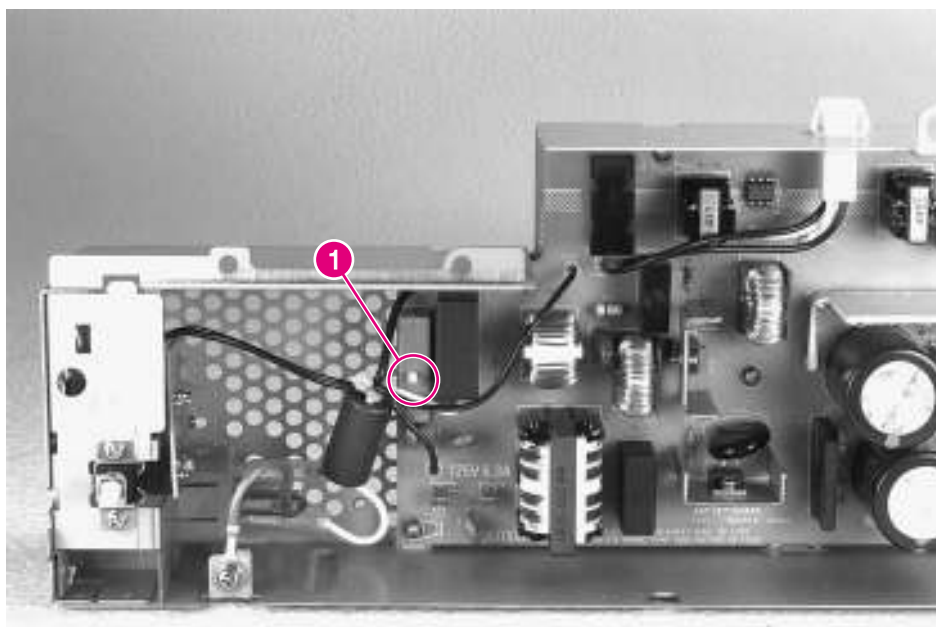

Figure 5-3 Low Voltage Power Supply
- The resettable circuit breaker (CB101) shuts off AC input power to the LVPS in case of an AC overcurrent condition. To reset, remove the LVPS and press in the circuit breaker button (figure 5-3, callout 1).